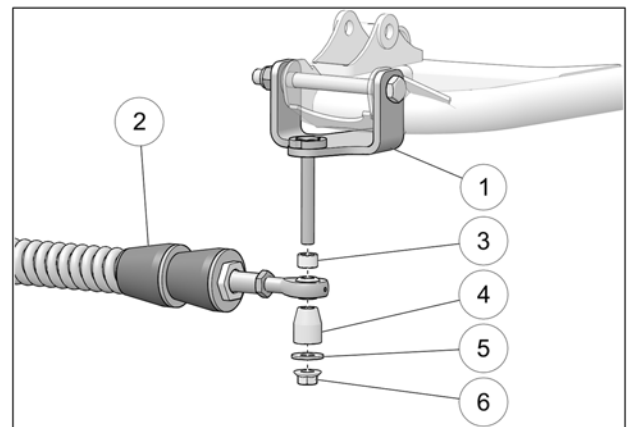

Fig. 12
WARNING: On this vehicle model, the rear stabilizing arm must *not* be assembled as specified in the *User Manual* or in the *Adjustments* document. The long spacer bushing (4) MUST be installed below the rod end, with its taper half upward. The short spacer bushing (3) MUST be installed above the rod end. See Fig. 12
- Attach the stabilizing rod (2) to the anchor bracket (1), using the short spacer bushing (3), the long spacer bushing (4), flat washer (5) and nut (6). Torque to 70 N•m [52 lb•ft]. See Fig. 12